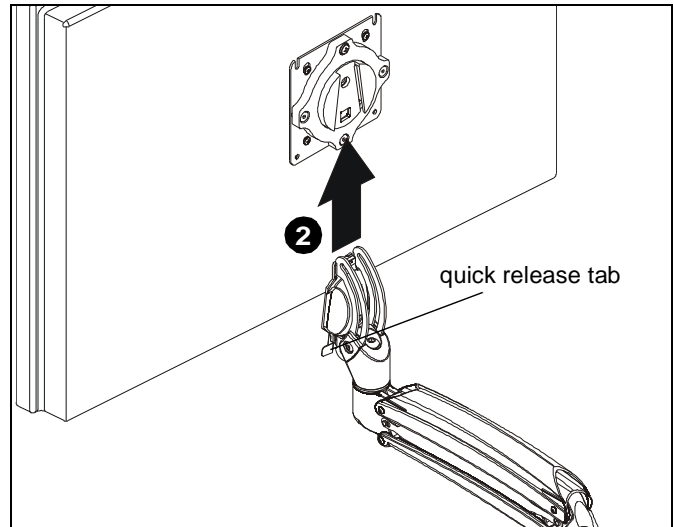

Figure 24
**WARNING:** Only remove display from mount when the display can be lifted up from the mount! DO NOT remove display unless the display is in the upright position! (See Figure 24)
2. Remove quick release faceplate from mount by pulling quick release lever and sliding faceplate off mount. (See Figure 24)